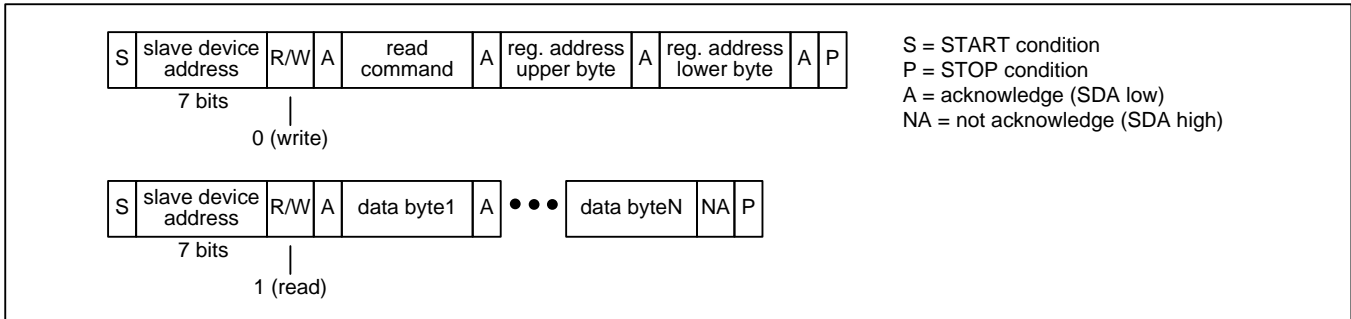
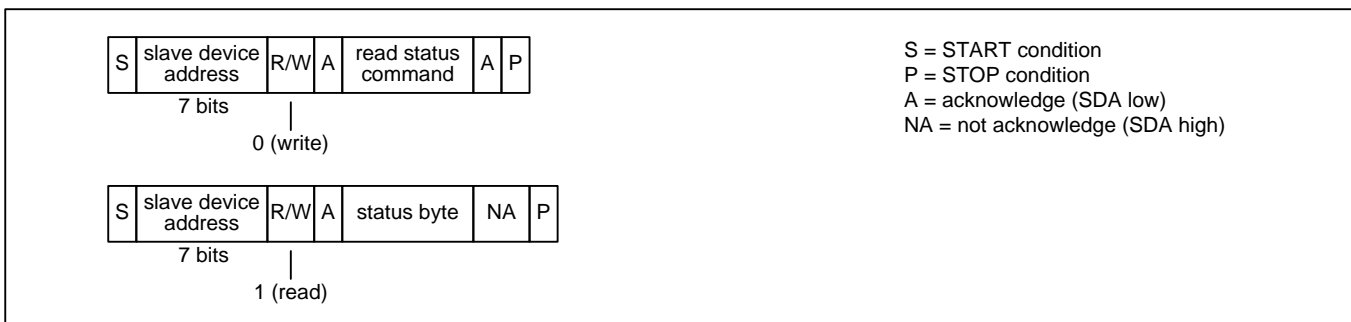

Figure 8 - I2C Read Transaction Functional Timing
Figure 11 - I2C EEPROM Read Status Transaction Functional Timing (ZL40251 and ZL40253 Only)
**Read Transactions.** The device registers are accessible when the **EESEL** bit is 0. On ZL40251 and ZL40253 the internal EEPROM memory is accessible when the **EESEL** bit is 1. On ZL40250 and ZL40252 the **EESEL** bit must be set to 0. The bus master first does an I2C write to the device. In this transaction three bytes are written: the SPI Read command (see Table 3), the upper byte of the register address, and the lower byte of the register address. The bus master then does an I2C read. During each acknowledge (A) bit the device fetches data from the read address and then increments the read address. The device then transmits the data to the bus master during the next 8 SCL cycles. The bus master terminates the read with a not-acknowledge (NA) followed by a STOP condition (P). See Figure 8. After the I2C write there can be unlimited idle time on the bus before the I2C read, but the device cannot tolerate other I2C bus traffic between the I2C write and the I2C read. Care must be taken to ensure that the I2C read is the first command on the bus after the I2C write to ensure the two-part read transaction happens correctly.
**EEPROM Read Status (ZL40251 and ZL40253 Only).** The bus master first does an I2C write to transmit the SPI Read Status command (see Table 3) to the device. The bus master then does an I2C read to get the status byte. In this byte, the least significant bit is set to 1 if the transfer is still in progress and 0 if the transfer has completed. See Figure 11. Similar to read transactions described above, the I2C write and the I2C read cannot be separated by other I2C bus traffic.
Note: In Figure 8 through Figure 11, a STOP condition (P) immediately followed by a START condition (S) can be replaced by a repeated START condition (Sr) as described in the I2C specification.